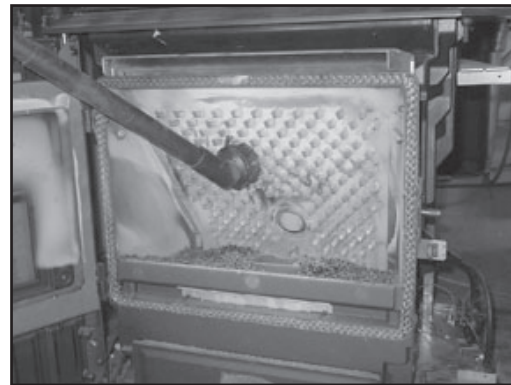

Figure 17.3
- Vacuum the ash from the heat exchanger with an upholstery brush to remove the majority of the ash. Be sure to vacuum the back of the baffle also. Inspect the drop tube and remove any residue build-up in the drop tube. **Figure 17.3**